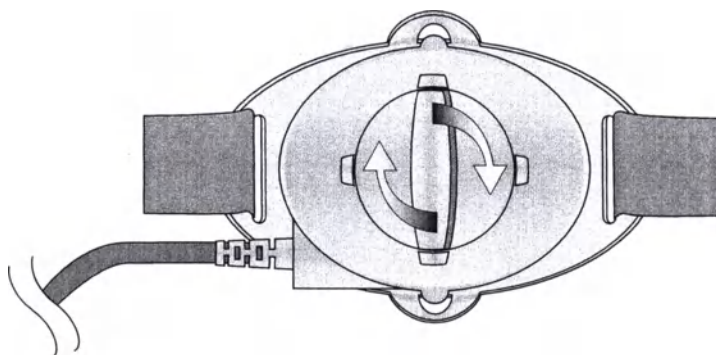

Figure 2.7 Adjusting the antenna dial.
- a. Turn the dial on the antenna one quarter turn in either direction (Figure 2.7).